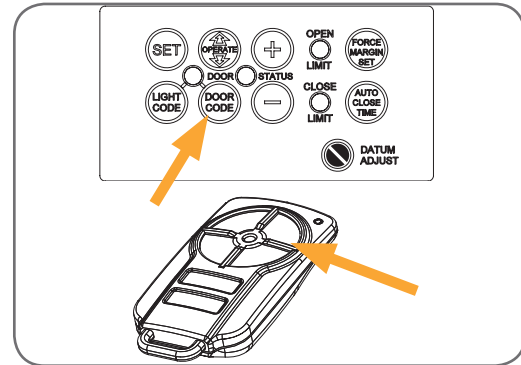

fig 37
- Press one of the four buttons on the transmitter for two (2) seconds, pause for two (2) seconds, then press the same button again for two (2) second.
- Briefly press the DOOR CODE button three times, then press it again and hold (will beep four times on fourth press (**Fig. 37**)).
- Press one of the four buttons on the transmitter for two (2) seconds, pause for two (2) seconds, then press the same button again for two (2) seconds.